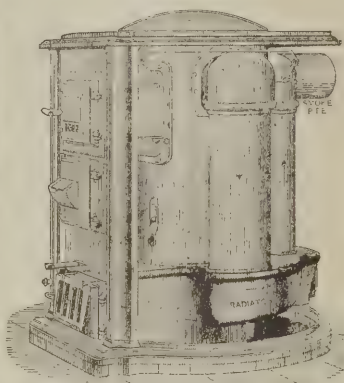

FIG. 2.—DIRECT DRAFT FURNACE
**TYPE OF FURNACE.**—While there are many forms of furnaces upon the market, they are in general, divided into two classes, known as *direct* and *indirect* draft. In the first of these the gases pass from the top of the dome or combustion chamber into the smoke pipe by way of passages more or less direct. A well designed furnace of this type is shown in Fig. 1 in which case the gases are made to pass around a radiator by means of suitable reflectors, thus giving up a good share of their heat before entering the chimney. In some of the cheaper forms of this furnace, no radiator is provided and the gases pass directly from the dome into the smoke pipe. The general plan of an indirect furnace is shown in Fig. 2. In this type the gases pass downward to a radiator located near the base, then upward through another flue to the smoke pipe. A